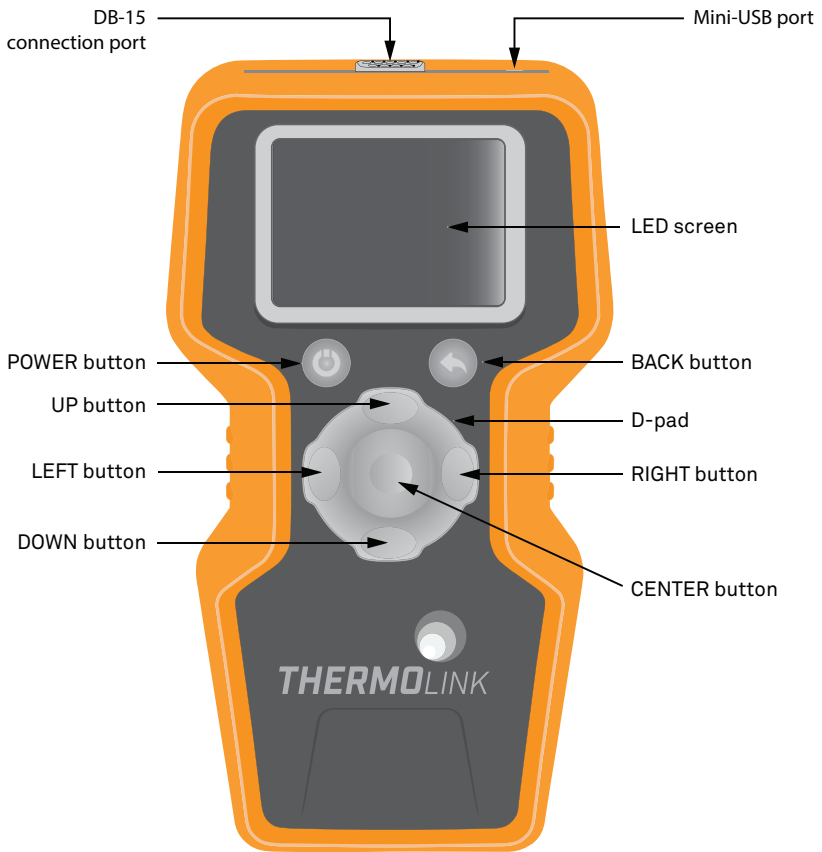

Figure 2 THERMOLINK controller
The **POWER** button (Figure 2) turns the THERMOLINK controller on and off. To completely power down the unit, press the **POWER** button and hold for 5 s.
Pressing the **BACK** button (Figure 2) moves the cursor back to the previous screen. When it is pressed multiple times, the cursor moves back to the Main menu. Changes are automatically saved.
The central control of the THERMOLINK controller is the D-pad (Figure 2). Selecting configurations or options in the THERMOLINK controller will require the use of these buttons.
- The **CENTER** button (Figure 2) serves as the Select or Enter function.
- The **UP**, **DOWN**, **RIGHT**, and **LEFT** buttons (Figure 2) are active when an icon or text on the display screen is highlighted in red. These arrows allow the user to scroll within a field or to select a field before pressing the **CENTER** button.